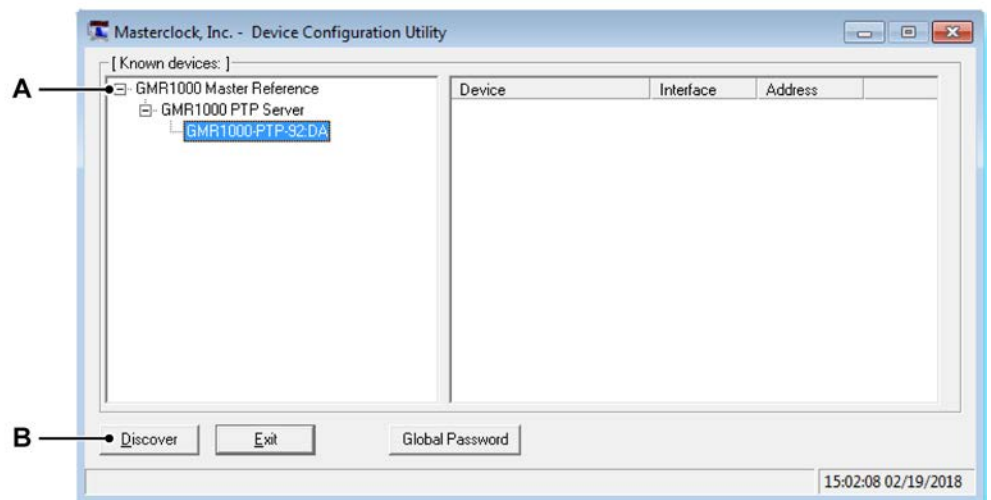

Figure C.18: Device Configuration Utility tool - Detected devices
- 1 Start the WinDiscovery tool from Masterclock®, this will show the devices on the network (see Figure C.18).